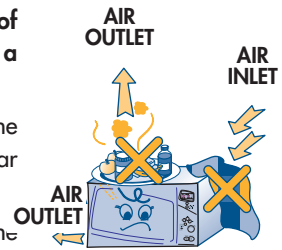

fig. 7
- 6) Do not block the air intake vents. In particular, never place anything on top of the oven and make sure the air and steam outlet vents (on the top, bottom and rear of the appliance) are ALWAYS FREE (fig. 7).
- 7) Place the turntable support (I) in the centre of the circular housing and rest the turntable (H) on top. The spindle (D) must be inserted into the housing in the centre of the turntable.